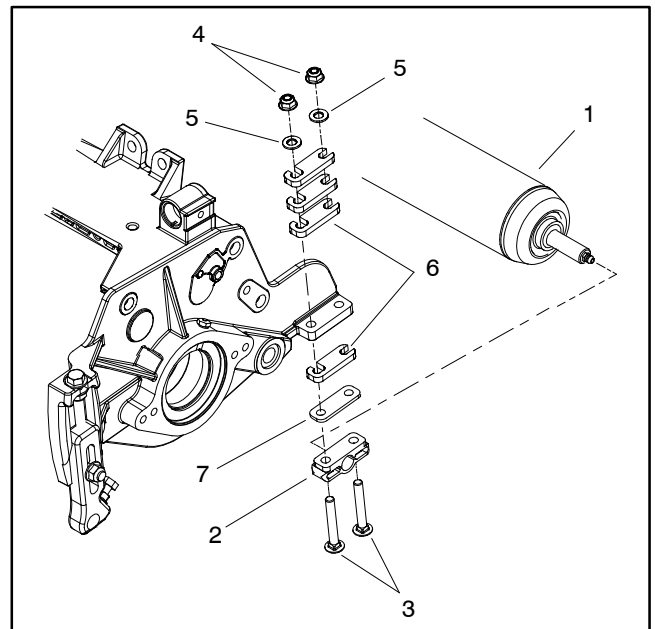

Figure 16
7. If rear roller is still not level after adjusting both side plates, check to see if cutting reel is tapered (see Preparing Reel for Grinding in the Service and Repairs section of this chapter). If cutting reel is not tapered and rear roller is not level, a 0.010" shim (part number 107-4001) is available to allow additional rear roller adjustment. The shim would be used on one side of the rear roller and should be installed between the rear roller bracket and roller shim (Fig. 16).